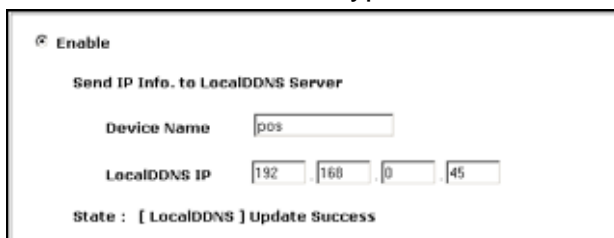

Figure 7
3. If the LocalDDNS Server is installed in the GV-System, type default value **pos**. Or modify it to match that of the POS system. See *Figure 7*.